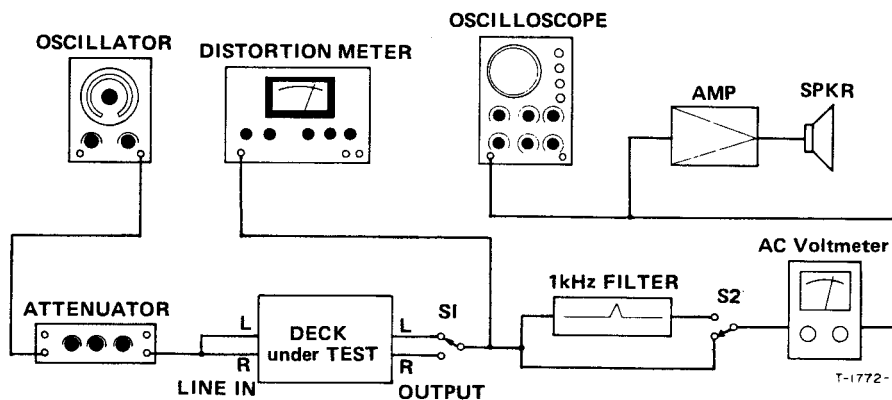

Fig. 5-1 Basic test setup
17. Erase efficiency	• Connection – Fig. 5-1. But switch ON 1kHz filter. • Record 1 kHz. Rewind tape to mid point of recorded portion. Do "no signal" recording. Get difference between 1 kHz portion and its erased portion.
18. REC MUTE function	• Connection — Fig. 5-1. But switch ON 1 kHz filter. • Record 1 kHz. Then push REC MUTE button for several sec. Rewind and play tape. Get difference between 1 kHz portion and the "no signal" portion.
19. Channel separation	• Connection— Fig. 5-1. But do not connect LINE IN (R), switch ON 1 kHz filter. • Set deck in record mode. Find differences between 1 kHz recorded portion (L-ch) and "no signal" portion (R-ch).
20. Adjacent track crosstalk	• Connection — Fig. 5-1. But do not connect LINE IN (L) and OUTPUT (L). • Record 125 Hz on R-ch. Note output level of its recorded portion. Invert tape and play R-ch track. Check leakage level against the output reference of previously recorded portion.